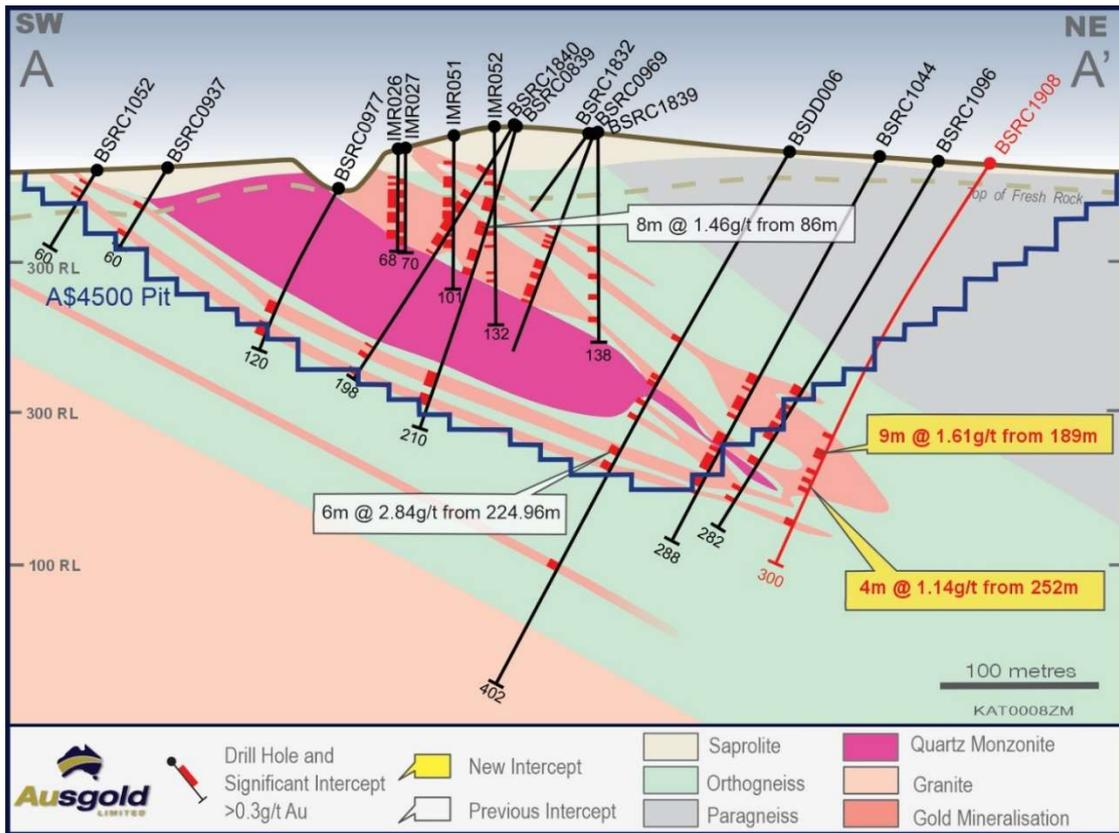

Figure 3 – Cross-section A-A' across the Jinkas-White Dam Lodes with Resource Drilling and Pits
- **9m @ 1.61g/t from 189m including 4m @ 1.65g/t from 190m and 1m @ 6.31g/t from 197m in BSRC1908 (Jinkas down-dip) (Figure 3)**
Results from holes BSRC1907 and BSRC1908 (Figure 3) complement previously announced drilling³ from the current campaign, targeting the Jinkas-White Dam primary synform hinge position that currently lies outside the constraining Resource pit shell due to limited drilling density.